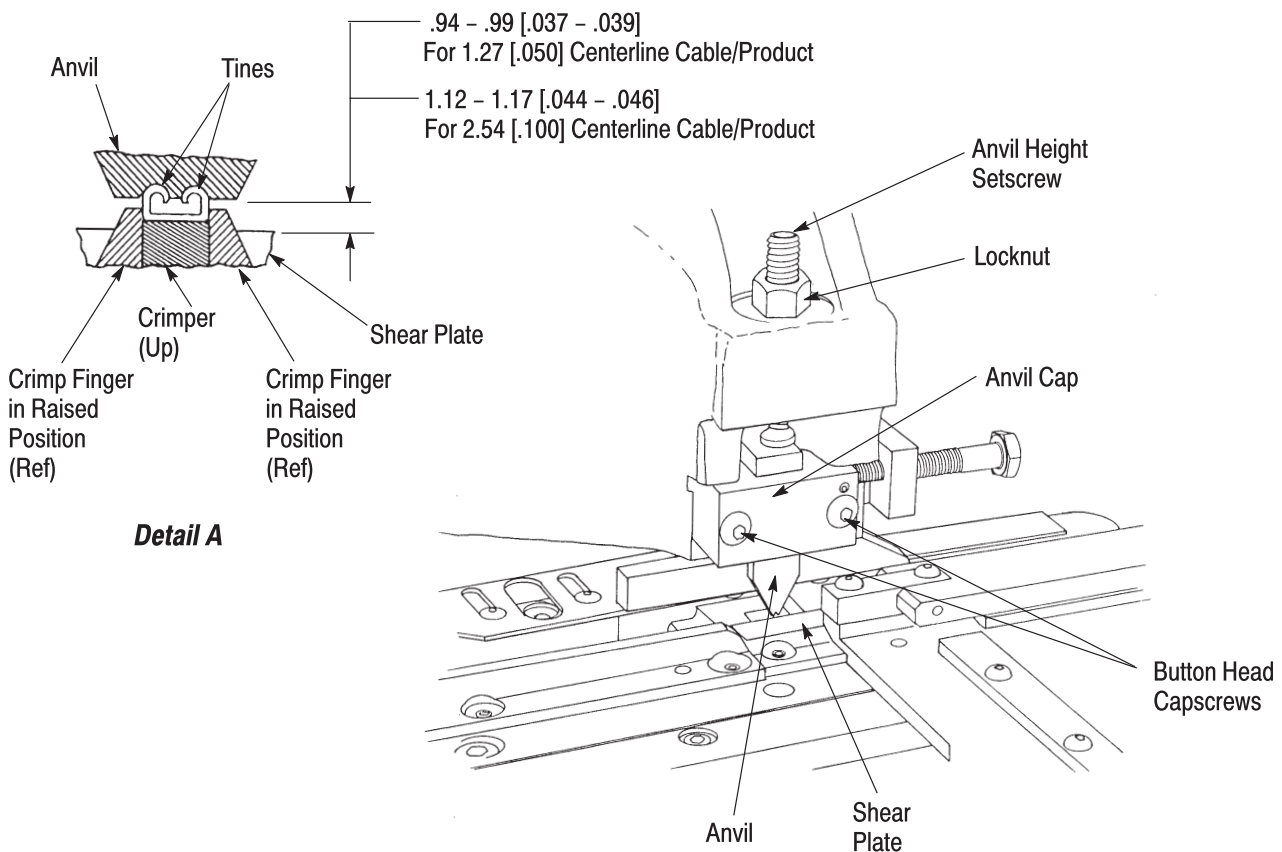
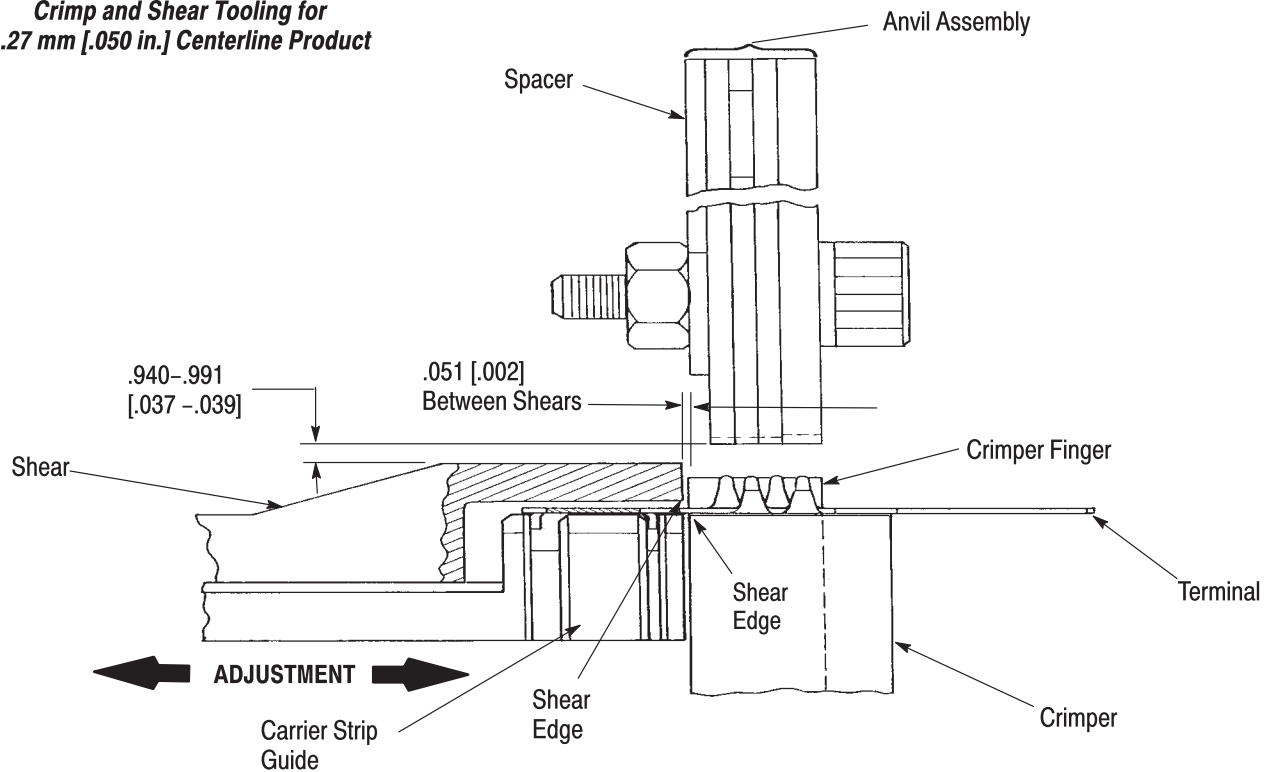

Figure 14
Figure 15
**5.4. Anvil and Shear Plate Adjustment** (Figure 14)
2. Measure gap between anvil and shear plate using a thickness gage. The dimension should be 0.94 to 0.99 mm [.037 to .039 in.] for 1.27 mm [.050 in.] centerline cable/product and 1.12 to 1.17 mm [.044 to .046 in.] for 2.54 mm [.100 in.] and 5.08 mm [.200 in.] centerline cable/product. See Figure 14, Detail A; and Figures 15 and 16.
3. If the anvil requires adjustment, loosen the two button head capscrews so that there is a slight pressure on the anvil. Loosen locknut on anvil height setscrew. See Figure 14. While holding anvil, turn setscrew until the required gap dimension is obtained. Refer to Step 2. When anvil is properly adjusted, retighten button head capscrews and locknut on the setscrew.
### 5.5. Anvil and Crimper Alignment (Figure 15 and 16)
2. Loosen the two button head capscrews on the anvil cap (Figure 14) so that there is a slight pressure on the anvil. Hand-cycle machine until crimp fingers are raised. Refer to Step 1 for hand-cycling procedures.